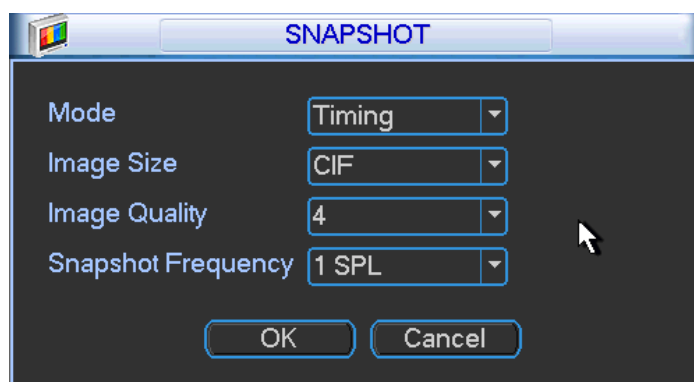

Figure 5-10
- Snapshot: Click snapshot button, you can set snapshot mode, picture size, quality and frequency. See Figure 5-10.